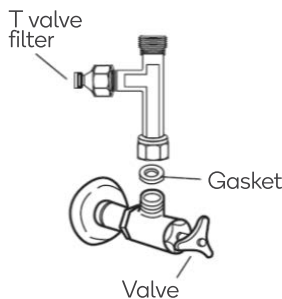

Figure 2
- Connect T valve with filter and inlet valve (Figure 2).